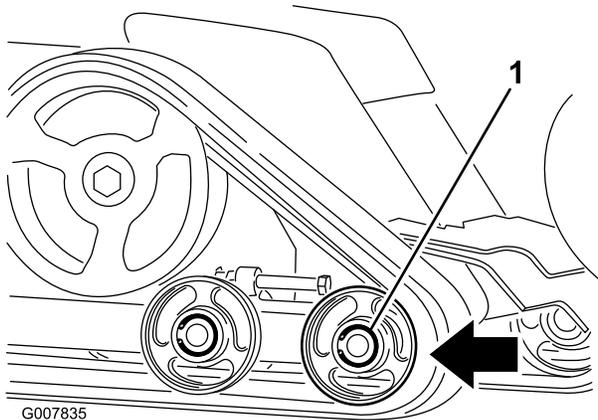

Figure 49
6. Push the front road wheel rearward as far as it will go (Figure 49).
8. When the track is off of the road wheel, remove it from the machine (Figure 49).
9. Beginning at the drive sprocket, coil the new track around the sprocket, ensuring that the lugs on the track fit between the spacers on the sprocket (Figure 49).
10. Push the track under and between the rear and center road wheels (Figure 49).